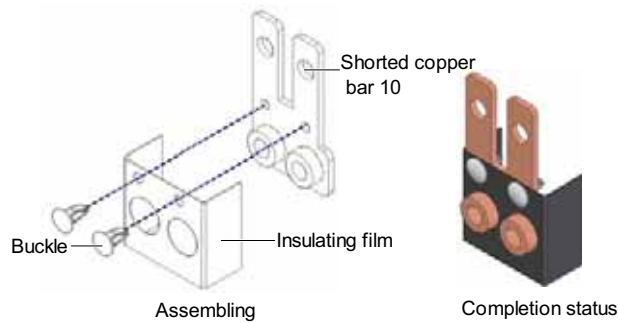

Figure 2-10 Pasting insulating film to shorted copper bar 10
6. As shown in Figure 2-10, you can paste the insulating film (accessory) to the shorted copper bar 10, and insert the buckles into the corresponding holes on the shorted copper bar 10.
7. As shown in Figure 2-10, you can paste the insulating film (accessory) to the shorted copper bar 10, and insert the buckles into the corresponding holes on the shorted copper bar 10.
1. As shown in Figure 2-10, you can paste the insulating film (accessory) to the shorted copper bar 10, and insert the buckles into the corresponding holes on the shorted copper bar 10.